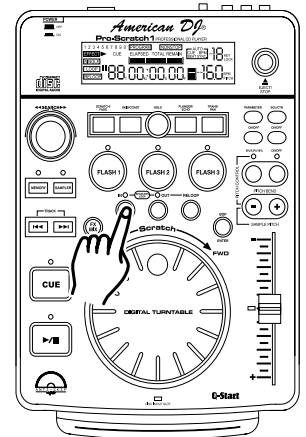

Figure 15
A cue point is the exact point playback will begin when the **PLAY/PAUSE (15)** is pressed. You may set your cue points anywhere on a disc or in a track. You may set up to four independent cue points per disk. Three cue points are stored in the **FLASH BUTTONS 1-3 (6)** and one in the **IN BUTTON (12)**. Figures 15 and 16 will detail the procedures for setting your custom cue points. There are two (2) ways to set a CUE point:
1) You may press the **IN BUTTON (12)** on the fly (while the disc is playing). This will set a CUE Point without music interruption. Pressing the **CUE BUTTON (13)** will now return you to the same point that you pressed the **IN BUTTON (12)**. You may now store this CUE Point in any of the **FLASH BUTTONS 1-3 (6)**. Pressing the **CUE BUTTON (13)**, **BOP BUTTON (20)** or the **IN BUTTON (12)** will now return you to this exact point.